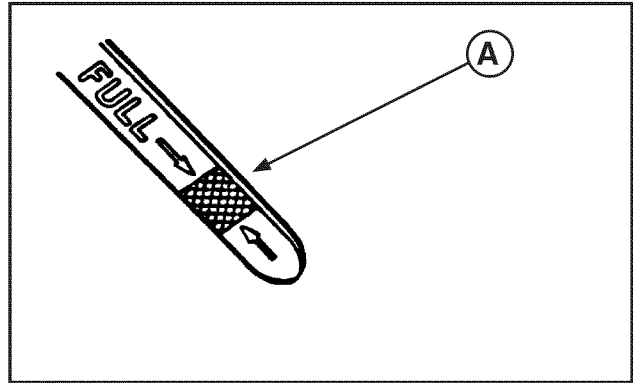

FIGURE 2
3. Check engine oil and add oil as needed to bring level up to the FULL mark (**A**, Figure 2).